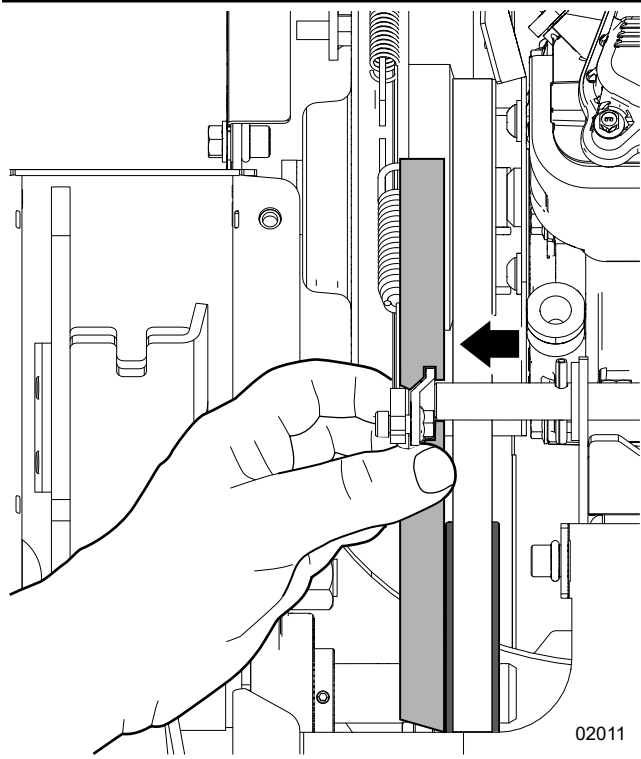

Fig. 26—Align the drive belt
3. Use a straight edge to check the drive-belt and sheave alignment (Fig. 26).